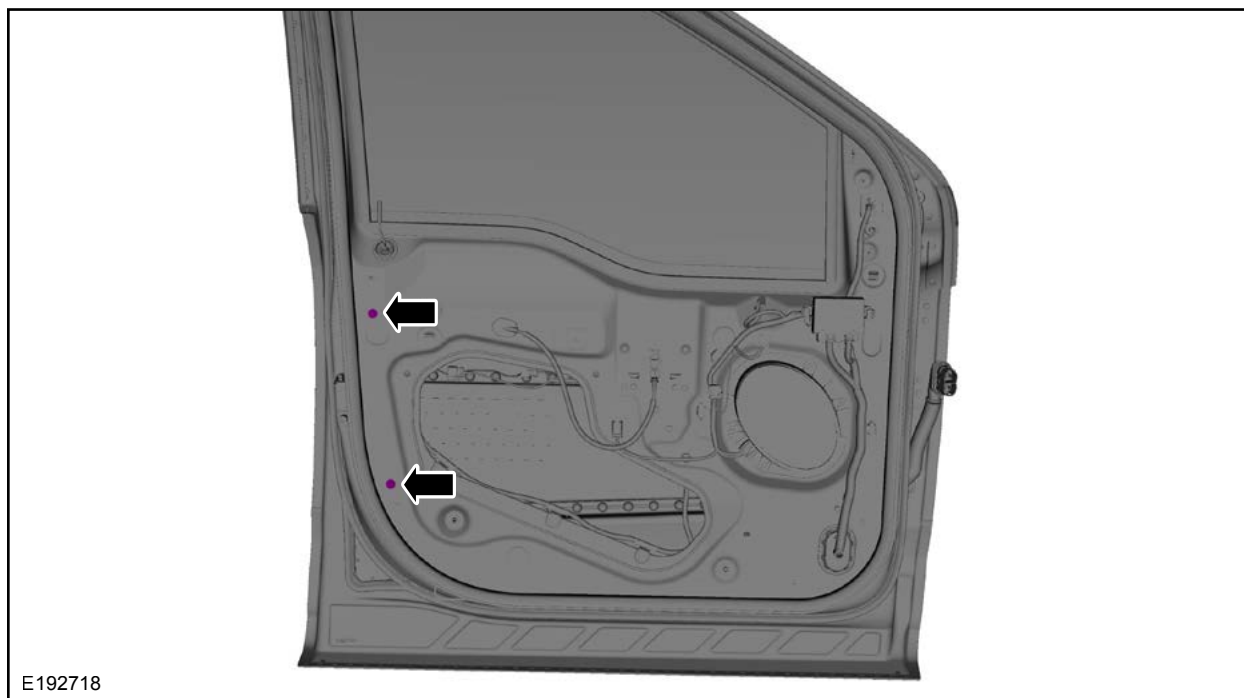

FIGURE 3
7. Loosen but do not remove the two door glass run bolts. See Figure 3.
12. Tighten the two door glass run bolts. See Figure 3.